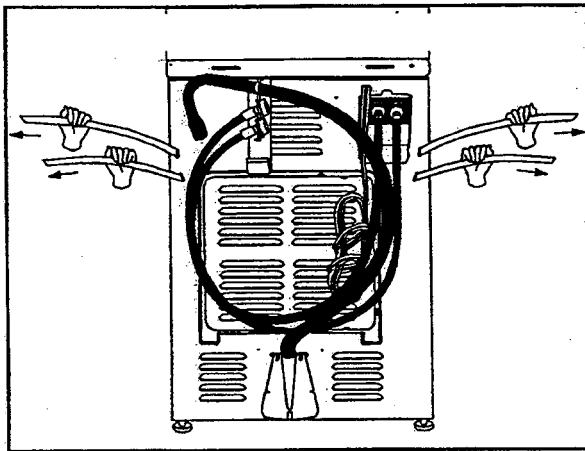

Figure 1-2
- b. Grasp each loose strap individually and pull the strap to remove it from the cabinet. Discard the strap (*Figure 1-2*).